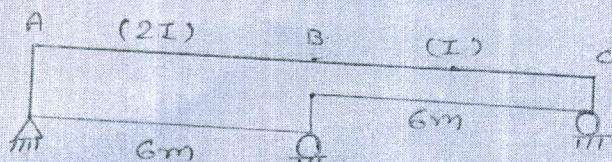

Figure 5
- (A) What is Influence line Diagram? Explain its importance in structural analysis. [5]
- (B) Draw the ILD for reaction at A for a beam shown in fig.5. Find the ordinates at 3m intervals. [5]